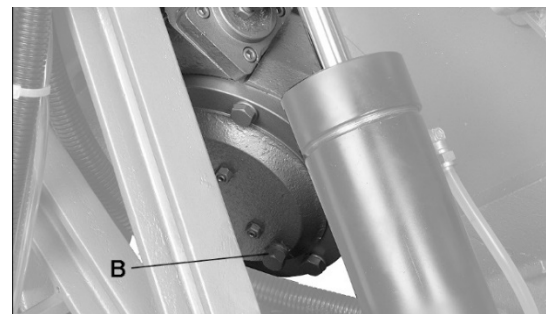

Figure 10-1
1. Remove drain plug (B, Figure 10-1) and allow lubricant to drain completely. Reinstall drain plug.